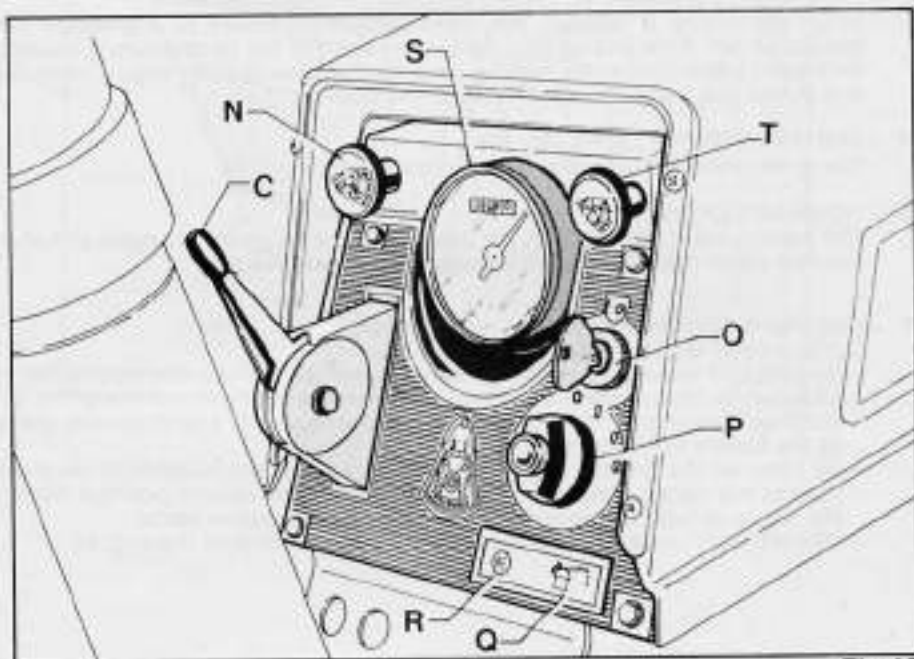

Fig.10
- As soon as the engine starts the oil pressure warning light on the dashboard (fig. 10) must be "off"; if it remains on or suddenly lights up during the regular operation turn off the engine immediately because it means that the oil pressure is insufficient, in which case do not use the tractor till the fault has been rectified.
N - ENGINE STOP KNOB (fig. 10)
O - MAIN SWITCH AND START KEY (fig. 10)
P - LIGHT SWITCH (fig. 10)
Q - OIL PRESSURE WARNING LIGHT (fig. 10)
R - LIGHTS WARNING LIGHT (fig. 10)
S - HOUR-METER (fig. 10)